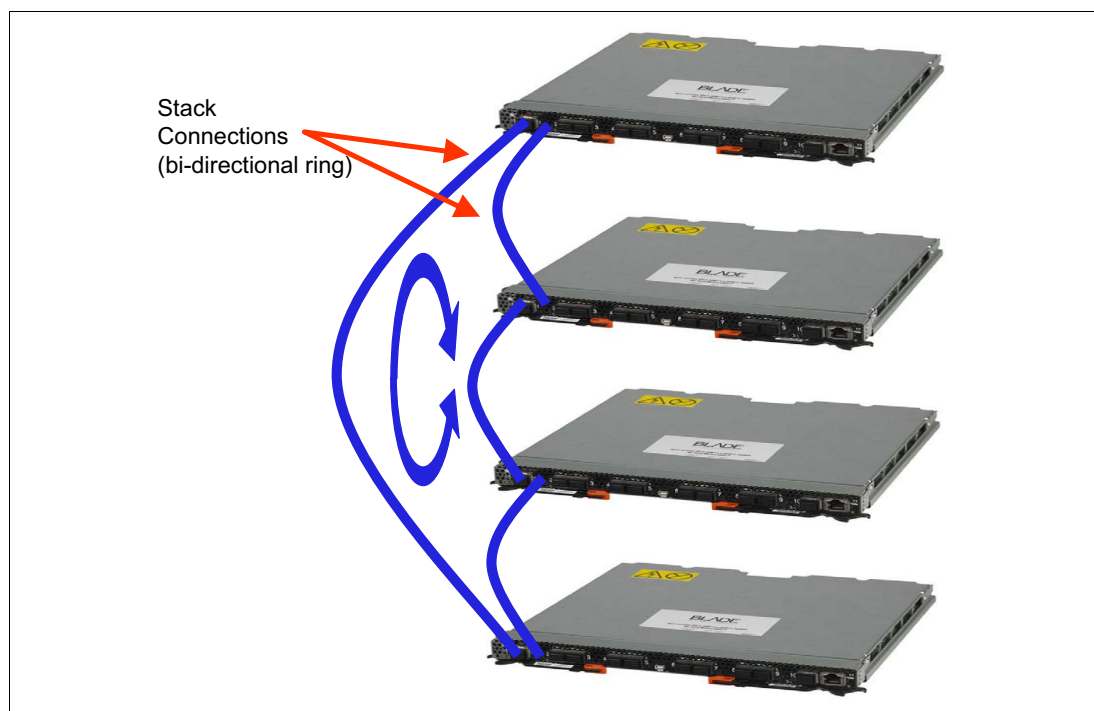

Figure 4-4 BNT Switch stacking bidirectional topology
- ▶ The preferred stacking topology is a bidirectional ring (see Figure 4-4). To achieve this topology, two external 10 Gb Ethernet ports on each switch must be reserved for stacking. By default, the first two 10Gb Ethernet ports are used.